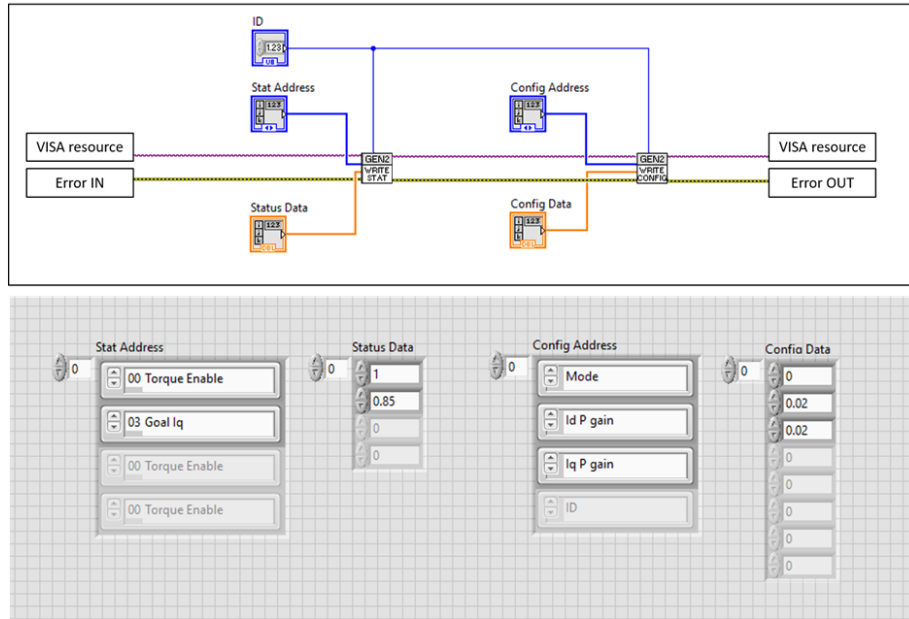

Figure 15: Write to BEAR.
- 2) **Write to BEAR** You can write to supported configure and status registers by respectively using the *Write_Config* and *Write_Stat* subVIs, as shown in figure 15.
To use the write subVIs, connect VISA resource and Error lines to corresponding terminals, then specify the ID of the target BEAR as well as the address and value of the target registers to write to. This can be done by creating controls from the corresponding terminals. Multiple registers can be written at once as shown in figure 15.